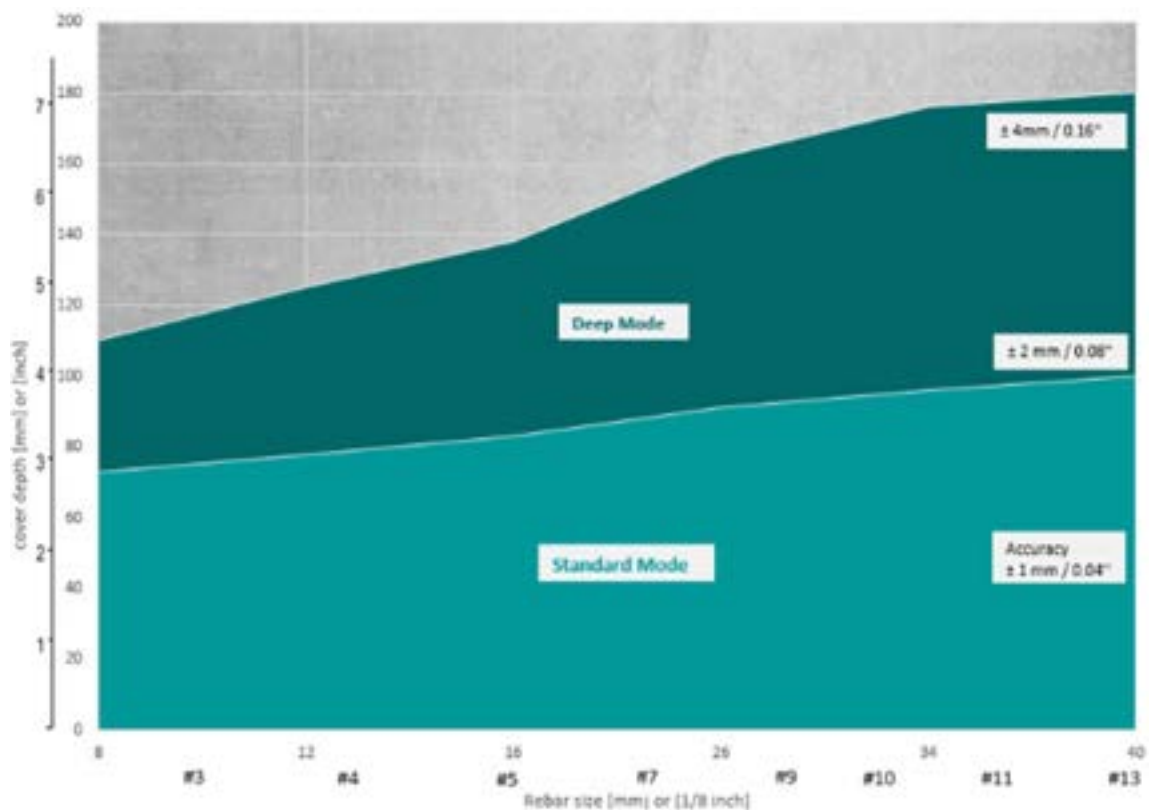

Figure 27: Measuring range without cart
- ❶ In deep mode, 180mm is the maximum depth limit for detection. Nevertheless, if the rebar diameter is known, the Figure 27 provides more precision on the maximum depth possible of detection following the rebar diameter.
- ❶ As explained in section 4.7.6, there is an Auto mode which switches automatically from Standard to Deep.
However, 80mm limit is only an average depth limit. That is why if the rebar diameter is known, the Figure 27 provides more precision on the maximum depth possible following the rebar diameter.